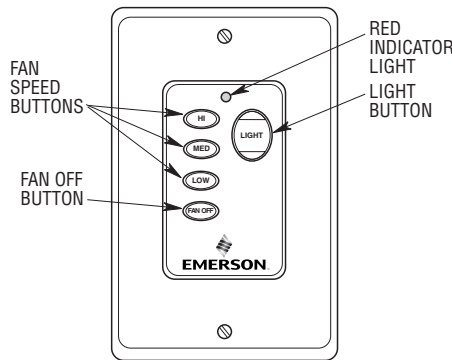

Figure 26
Your SW102 Fan/Light Wall Control (Figure 26) has full control of your fan speed and light intensity.
- 1. To set the desired fan speed, push the HI, MED, or LOW buttons to operate your fan on high, medium or low speed (See Figure 26).